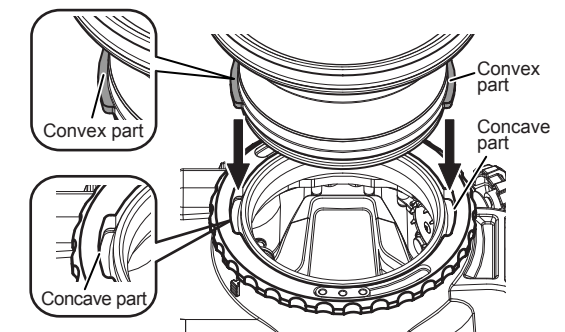

Fig.2
- 2 Align the convex part of the Standard Port with the concave part of the port mount ring, and fully insert the Standard Port into the housing (Fig.2)